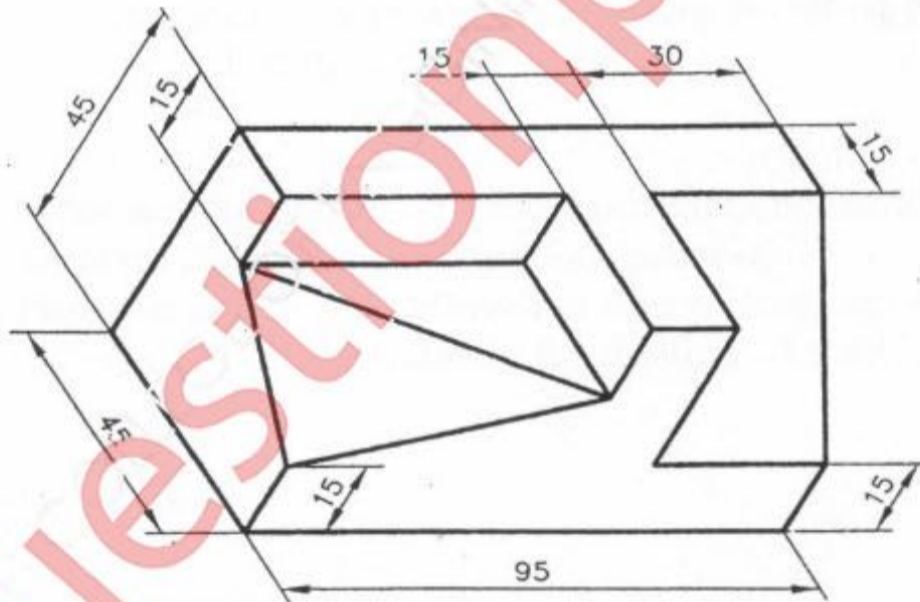

Figure no.1
Q.No.1. The component shown in the figure no.1 is to be sand cast. Material of the component is C.I. Assuming suitable data answer the following: